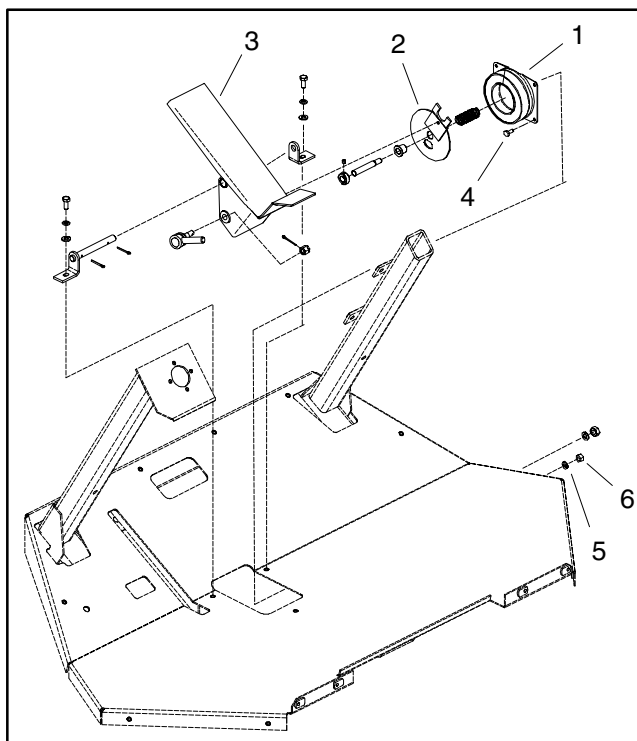

Figure 13
1. Make sure ignition switch is off. Locate control coil next to traction pedal under the floorboard (Fig. 13). Unplug coil connector from machine wire harness.